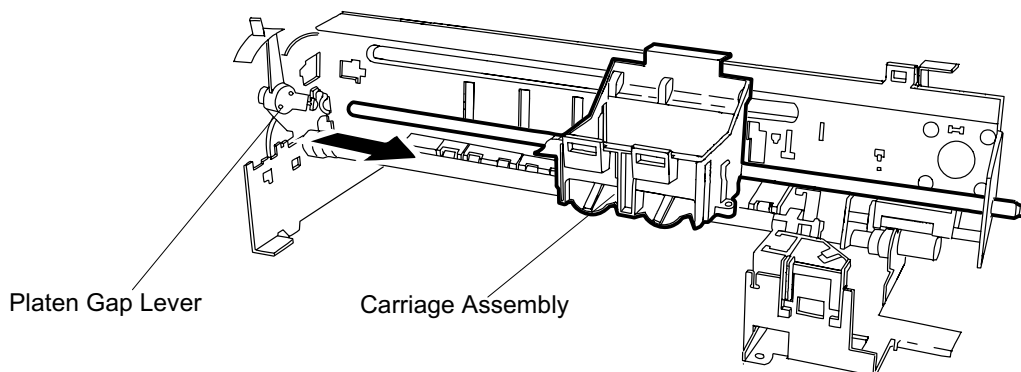

Figure 3-48. CR Assembly Removal
8. Shift the CR shaft to the right to remove the CR assembly from the platen gap lever and left parallelism adjustment bushing. (See Figure 3-48.)